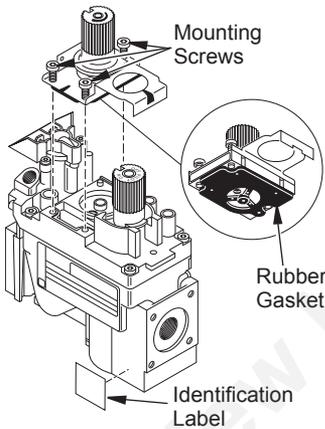

Figure 53- Installing New Parts for Gas Control Valve Conversion
2. Insure that rubber gasket is properly positioned on new pressure regulator assembly. Install new pressure regulator assembly to valve using new mounting screws supplied with kit. Tighten screws securely (approximately 25 in/lb). See Figure 53.
3. Install identification label enclosed with gas valve regulator to valve body where it can easily be seen (see Figure 53).